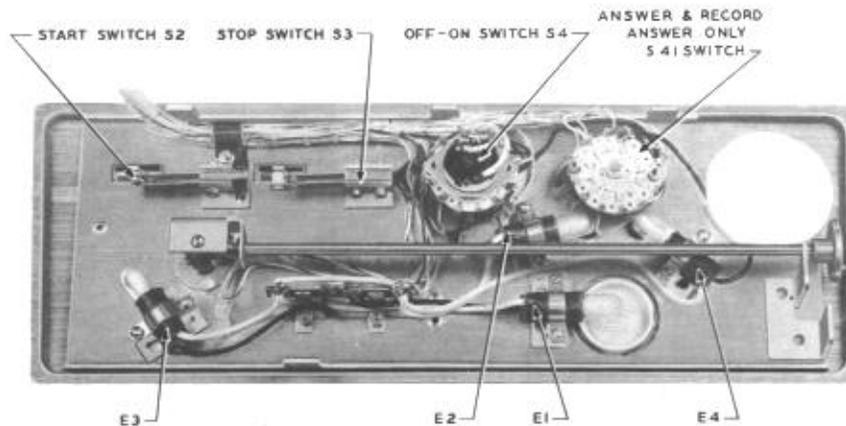

Fig. 7—IBA Telephone Answering Set—Back of Front Panel Showing Lamps and Switches
2.20 To remove lamps from socket, press the lamp into the socket, turn counterclockwise until free, and withdraw. To place a lamp, press the lamp into the socket and turn clockwise until secure. It may be necessary to loosen the clamp in order to remove the lamp. After placing a new lamp, tighten the clamp securely. (See Fig. 7.)